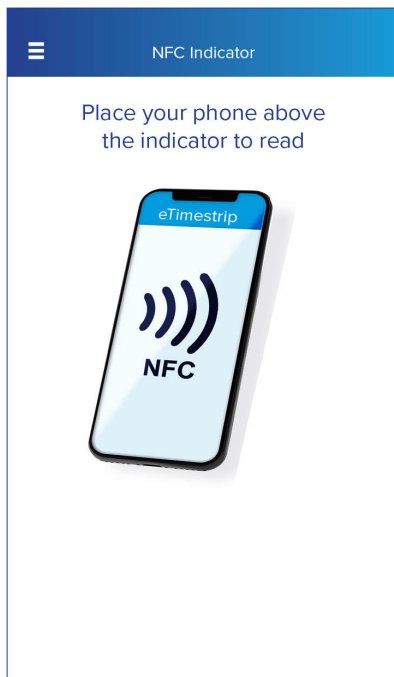

fig. 1
- From the menu on the upper left corner of the app, select the TL520, hold the phone or tablet above and close to the device. (fig. 1)